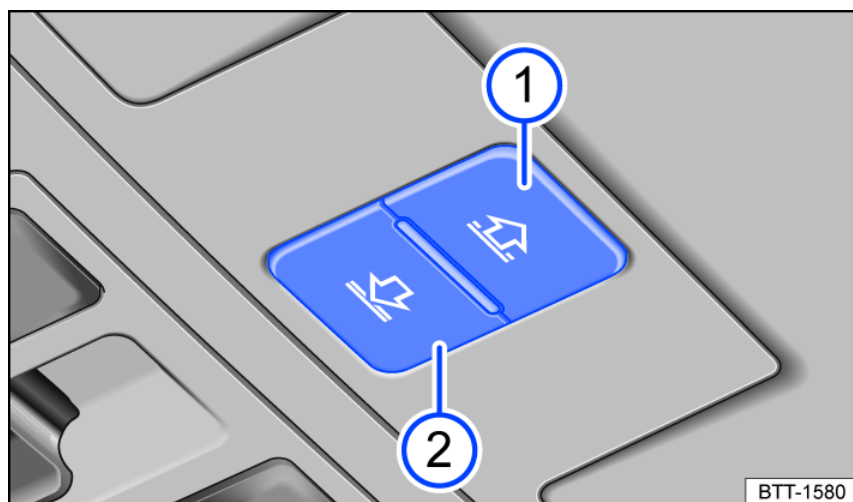

Fig. 103 In the headliner: buttons for controlling the sunshade.
The *fig. 103* **1** and **2** buttons have two detents. In the first detent, the sunshade can be opened or closed either completely or partially.
- Within approximately five seconds after pinch protection is triggered, press and hold the *fig. 103* **2** button until the sunshade is completely closed.